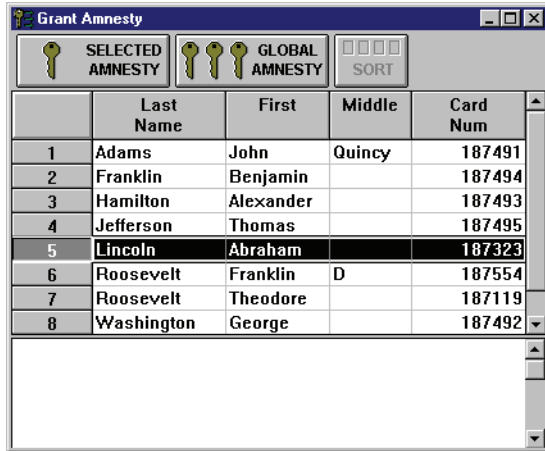

Figure 6-28: Selected Single User to Grant APB Amnesty
2. Click on that user's name. The name becomes highlighted indicating it has been selected (see Figure 6-28).